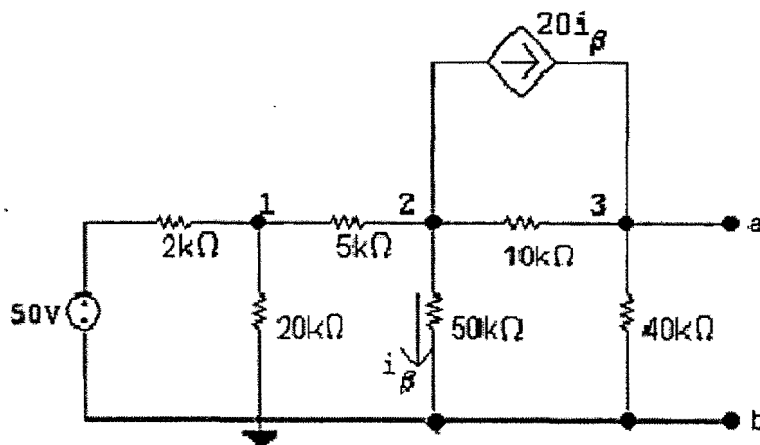

Figure 2
- Find the Thevenin equivalent with respect to the terminals a, b for the circuit in Figure 2. [14 marks]